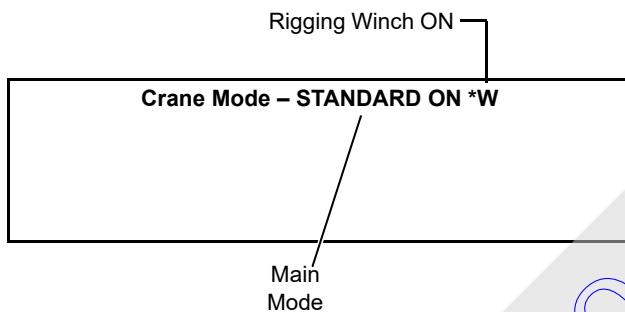

FIGURE 4-69
**\*W** will appear next to main mode as shown in Figure 4-69. The boom hoist handle on left console will now operate the rigging winch.